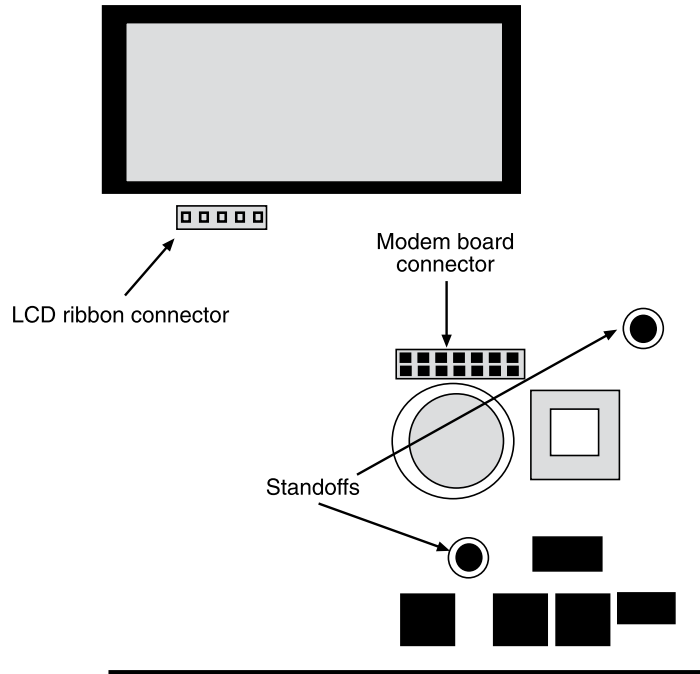

Figure 6: Modem mounting on the main board
3. The modem card connector is below and to the right of the LCD window. There are two standoff screw mounting holes in the lower righthand quadrant of the main board, one for the upper right corner of the card, and one for the lower left corner of the card. (See Figure 6)